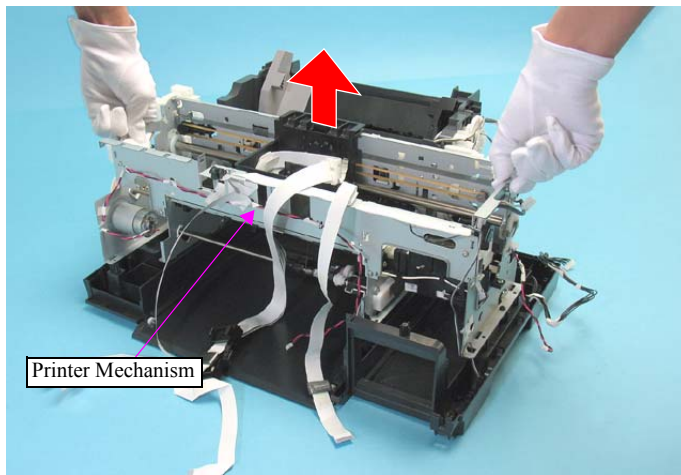

Figure 4-108. Removing the Lower Housing (4)
- To avoid deforming the frame, hold the Printer Mechanism by the positions shown in Figure.4-108 to remove it upward.